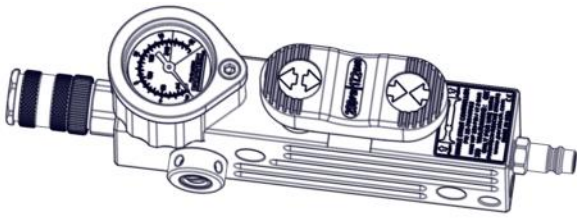

Figure 1-31A. Single Strut Controller G2
- a. **Single Strut Controller G2.** The Single Strut Controller G2 (Figure 1-31A) is a single input/single output controller incorporating quick disconnect hose fittings single rocker lever to apply "UP" and release "DOWN" air pressure to strut. A pressure gauge is provided to monitor the air pressure applied to the strut and a 250 psi (17.2 bar) relief valve is incorporated to limit the applied air pressure.